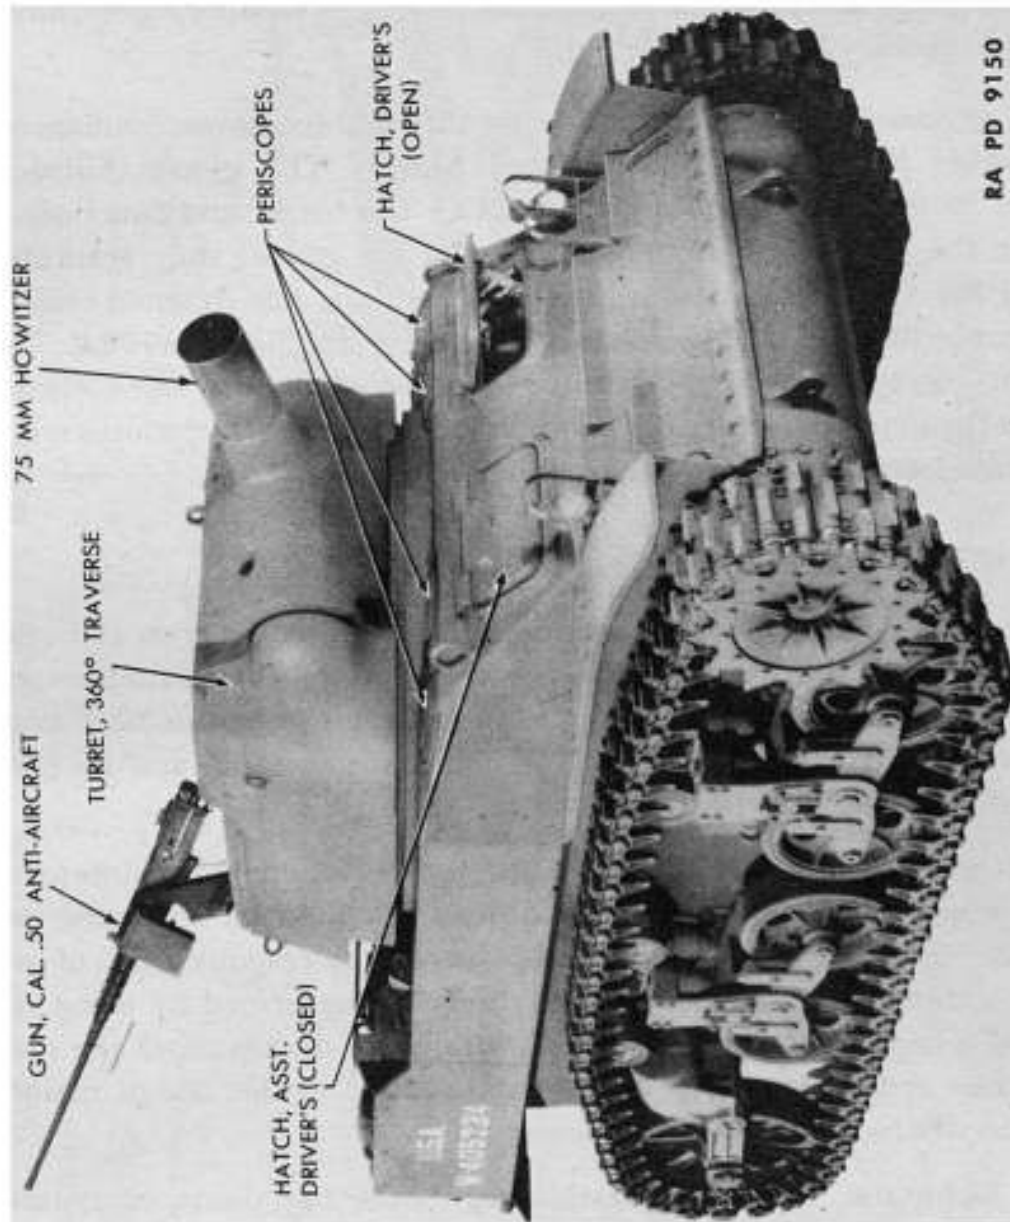

Figure 3—75-mm Howitzer Motor Carriage M8, Right Front View
b. The 75-mm Howitzer Motor Carriage M8 (fig. 3) is an armored, full track-laying, self-propelled mount for a 75-mm howitzer. It carries a crew of four men and is powered by the same engines, transmissions, and power train as the Light Tanks M5 and M5A1 (fig. 5).